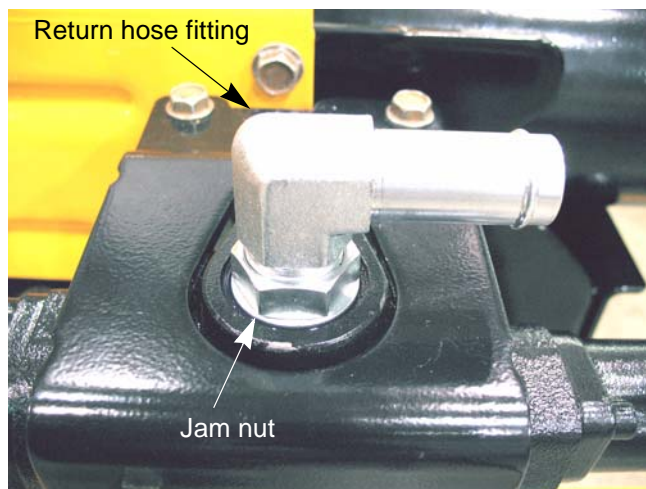

Figure 4.4
- 9a. Hold the fitting with a 1" wrench. See Figure 4.4.